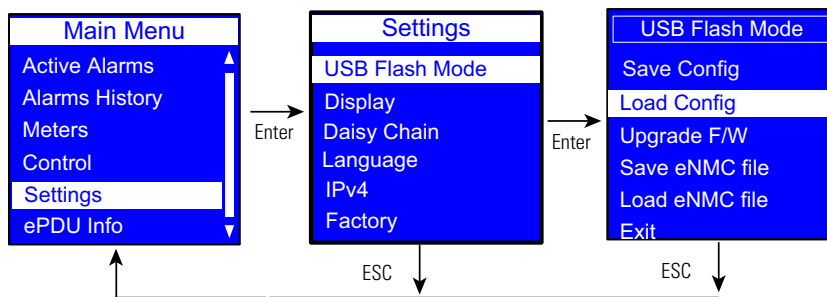

Figure 67. Example Load Config. Display
6. Select Load Config then click **OK** to start loading the ConfigurationData.xml file into the eNMC module (see Figure 67).